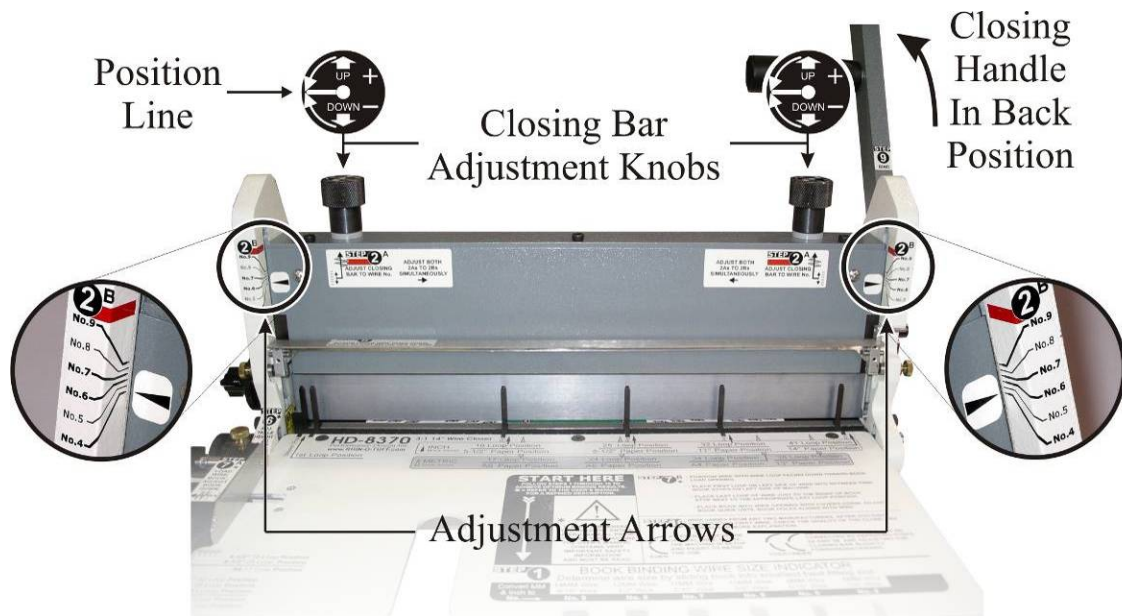

Fig. 2
**STEP 2A & 2B RED, Adjust Closing Bar:** See Figure 2, next page.
With the closing handle in the BACK position (EWC-8370 in its normal up position), adjust the Closing Bar by turning BOTH Adjustment Knobs simultaneously to the wire number determined in STEP 1 to Both labels 2B. The Closing Bar Adjustment Knobs have a UP/DOWN turning Indicator as well as a Position Line. The Position Lines are visual aids to help maintain parallelism between the Closing Bar and the lower closing bar. Simply turn the Closing Bar Knobs simultaneously keeping the Position Lines in sync. Wire varies from any two manufacturers and in rare cases you may need to lower or raise only one end of the Closing Bar for a consistent close from end to end. Adjust the upper closing bar to setting No. 4 as shown in Figure 2 next page.